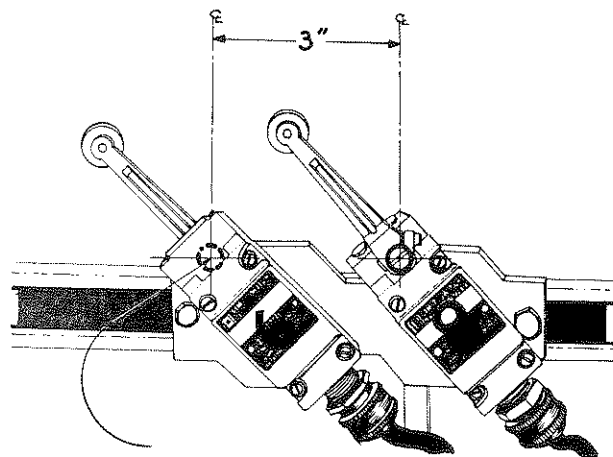

Fig. 45
16. Slide LS-8 (Feed Fork Delay/Plunger Switch) so that the center of the switch shaft is 3 inches forward of the center of the switch shaft on LS-6 (Plunger Return Delay Switch), see Fig. 45.
2. Loosen the mounting bolt and slide LS-8 (Feed Fork Delay/Plunger Switch) forward or rearward so that the center of the switch shaft is 3 inches forward of the center of the switch shaft on LS-6 (Plunger Return Delay Switch), see Fig. 45.